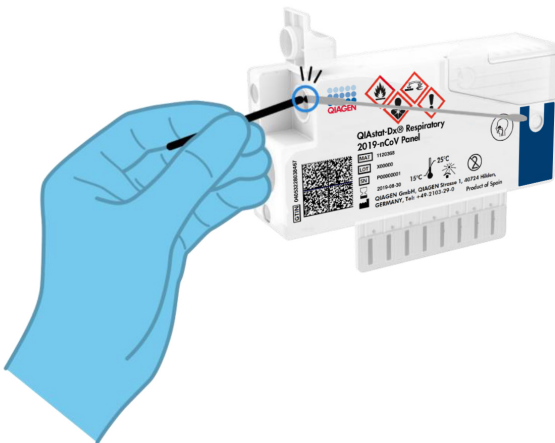

Figure 9. Breaking swab shaft.
6. Break the swab shaft at the breakpoint, leaving the rest of the swab in the QIAstat-Dx Respiratory 2019-nCoV Panel Cartridge (Figure 9).